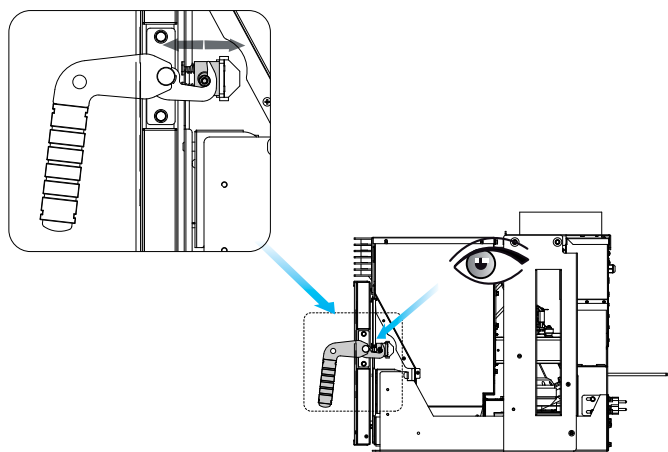

fig. 7.20
- N) Check whether the spring blocking the door is working properly, as shown in fig. 7.20.